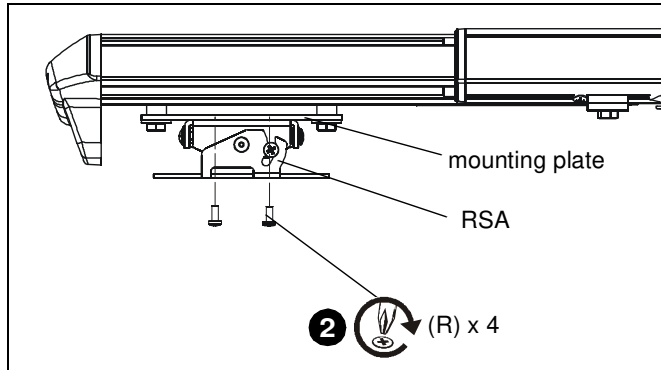

Figure 18
2. Install four 10-24 x 3/8" Phillips pan machine screws (R) through RSA holes and into projector mounting plate. (See Figure 18)